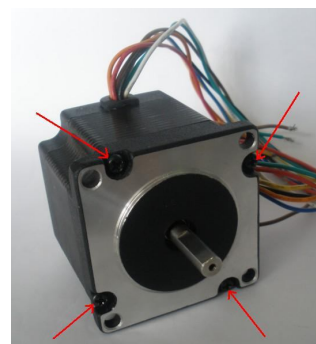
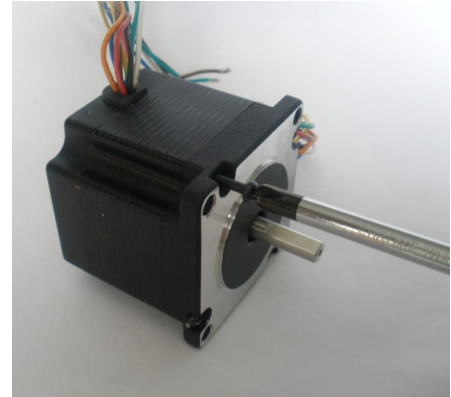

Figure 3
Figure 4
3. In most cases there is not enough thread depth left for the mounting screws, so the motor screws (**Figure 3**) need to be shortened. To do this, unscrew the motor screws ONE at a time (**Figure 4**) and file off a couple of millimeters from the screw length. A total thread depth of 3.5mm is required for the mounting screws.